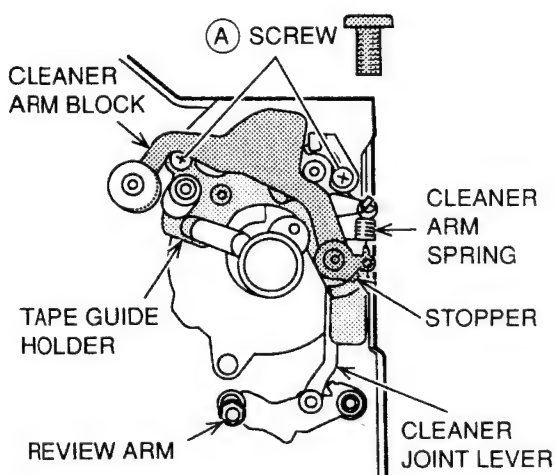

Fig. 3-20
2. Unhook the cleaner arm spring then release the stopper of the CLEANER ARM BLOCK as shown in Fig. 3-20 and remove it.